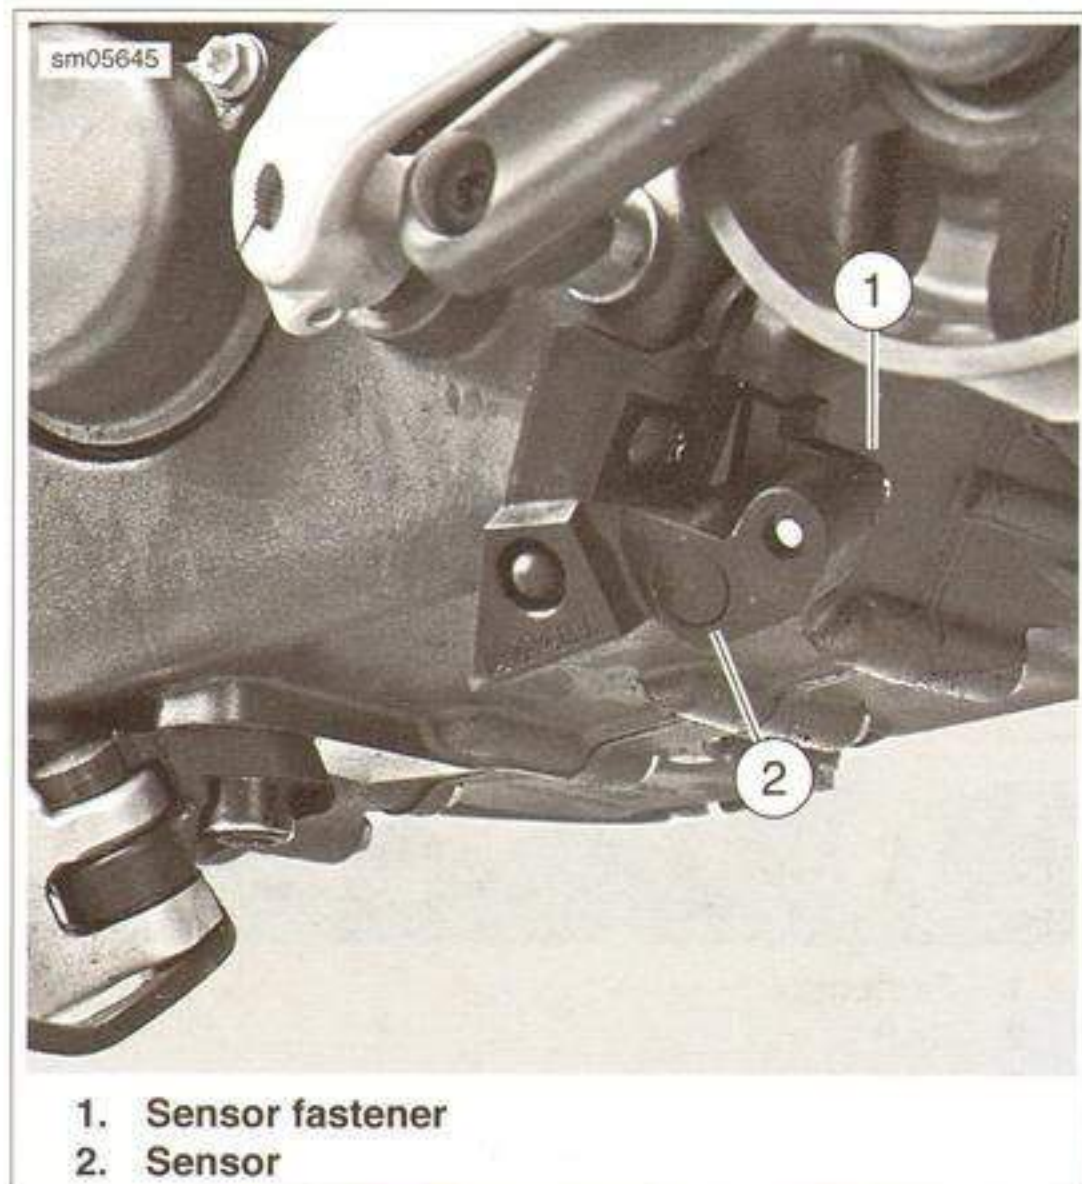

Figure 7-88. Sidestand Sensor (HDI)
3. See Figure 7-88. Remove the fastener (1) and the sidestand sensor (2).